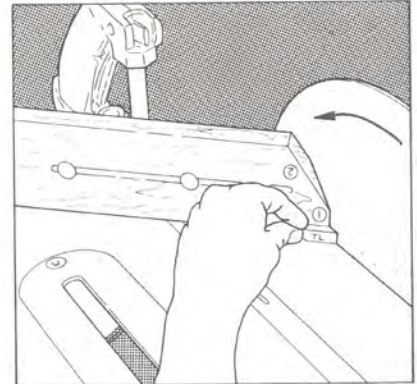

Figure 9. Resurface the beveled ends of the long guide blocks with the miter gauge set at 45° right and the table set at "0".
7. Resurface the beveled ends of the long blocks. Return the table tilt to "0", but leave the miter gauge set at 45° right. Turn the miter gauge extension end for end, so that corner #1 again butts up against the disc. Readjust the table and the extension. Turn on the Mark V and resurface the beveled ends of the long guide blocks with the **narrow** side down. (See Figure 9.) Turn off the machine.